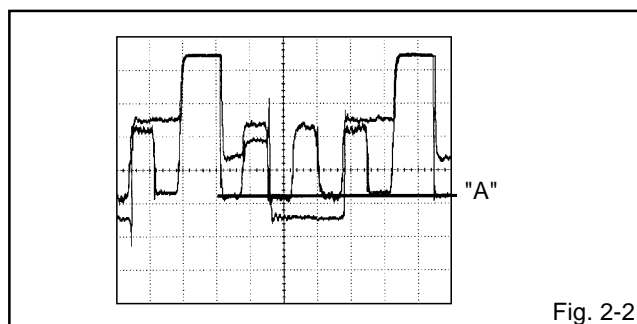

Fig. 2-2
5. Press the VOL. UP/DOWN button on the remote control until the section "A" becomes a straight line. **(Refer to Fig. 2-2)**